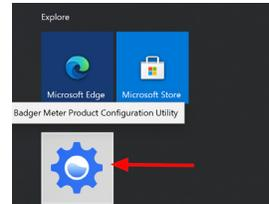

Figure 12: Software shortcut
2. Select **Badger Meter Product Configuration Utility** from the Windows **Start** menu. Alternatively, you can also open PCU by clicking the shortcut that displays in the **Start** menu (Figure 12).